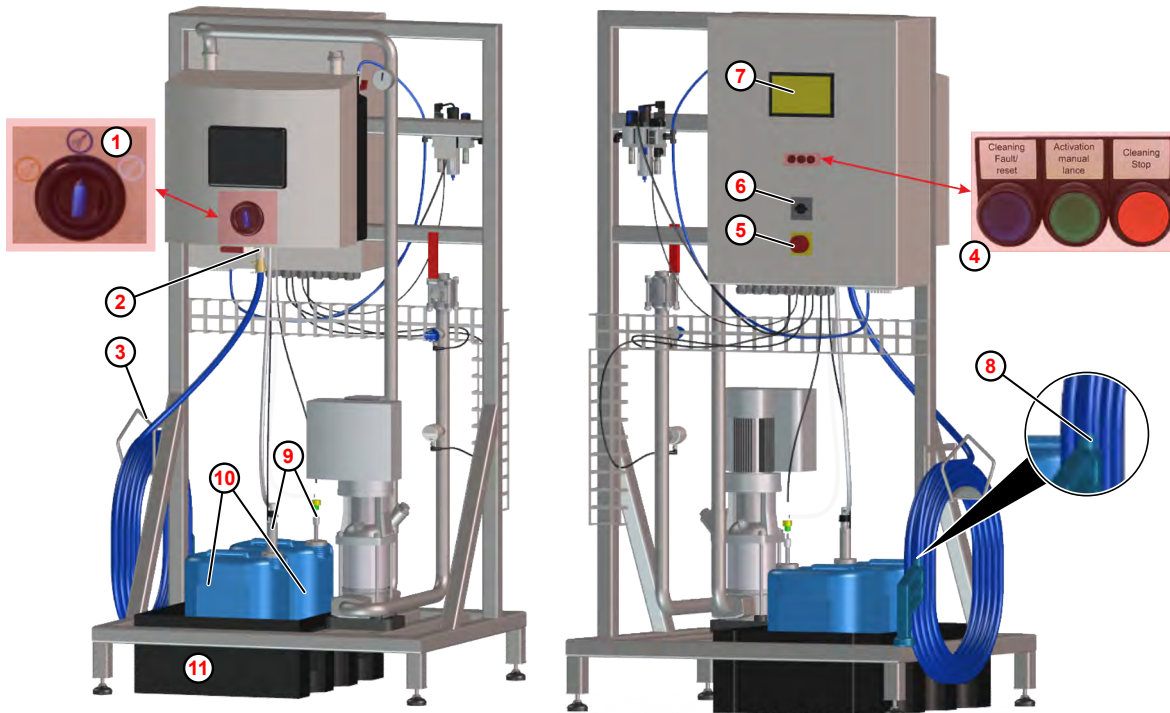

Fig. 121: BFH Foamatic With hose holder
1. On the control panel, go to Fig. 121 ⑦ the submenu 'Select Program and Zone' and select the cleaning program and zone.